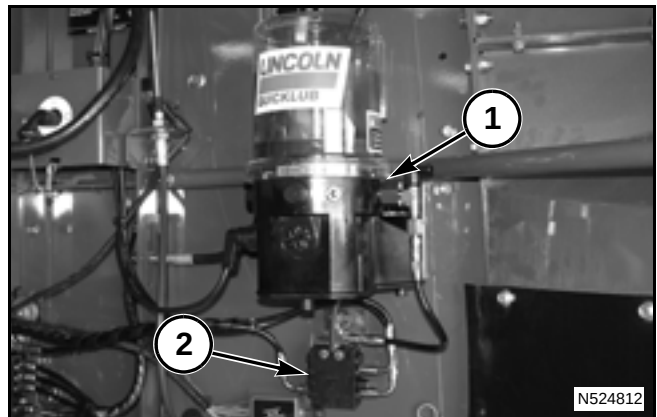

FIG. 68
FIG. 68: The auto lube system consists of a pump unit (1), a primary distribution block (2), and multiple secondary distribution blocks. The primary distribution block is connected to each of the secondary distribution blocks with separate lube lines.